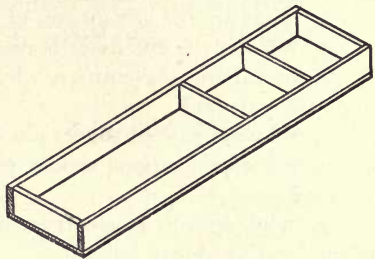

FIG. 127.—TRAY OF TOOL CHEST.
10. **Making trays.** — The two trays are for the purpose of holding the smaller tools, such as bits, files, scrapers, and screwdrivers. They are partitioned off as shown in Fig. 127. The top tray should be 2' 4 $\frac{1}{2}$ " long and 8" wide, and 3" deep (outside measurements), and made of soft wood $\frac{1}{2}$ " thick. The lower tray should be 1" shorter and the same width and depth. Nail on the sides to the ends and the partitions, then nail on the bottom.